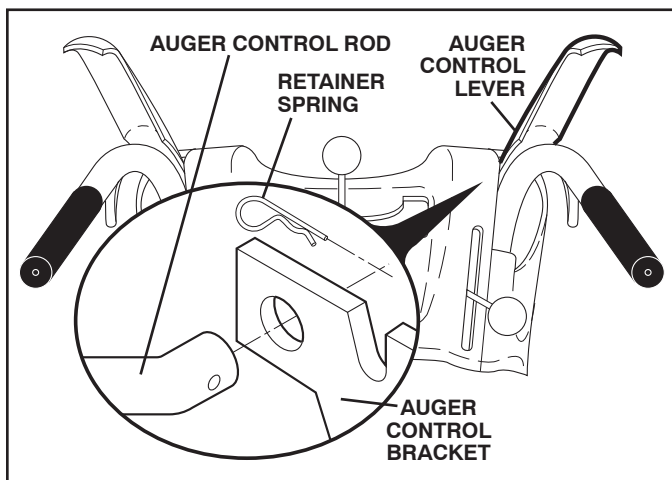

FIG. 6
3. With top end of rod positioned under right side of control panel, push down on rod and insert end of rod into hole in auger control bracket. Secure with retainer spring. (See Fig. 6).